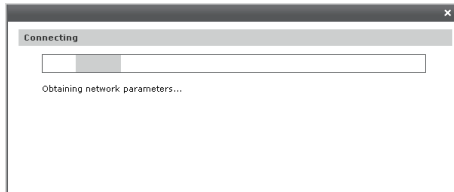

Figure 5-10 WAN Connection Type - Dynamic IP
2)If your ISP assigns the IP address automatically, please choose the Dynamic IP connection type to obtain the parameters for WAN port automatically. The process for obtain the parameter may take a few minutes as Figure 5-10 shown. If you close the screen during the process, the configuration will still be continued in the background.